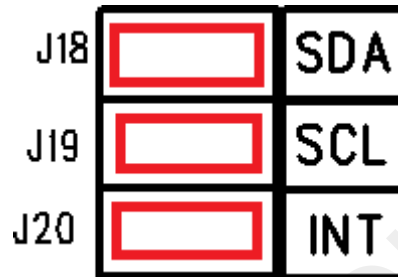

Figure 1-7 G-sensor I2C connection
- 4) **Mark 7:** I2C interface of 6-axis motion sensor. Connection of Jumper J18, J19 and J20 is shown in figure 1-7. If I2C interface is applied, J18 and J19 should be shorted with jumper. That is to say, connect I2C signal line to M3\_2 and M3-3. INT single line can be connected to M2\_2 via J20, and can be left not connected if INT function is not configured.